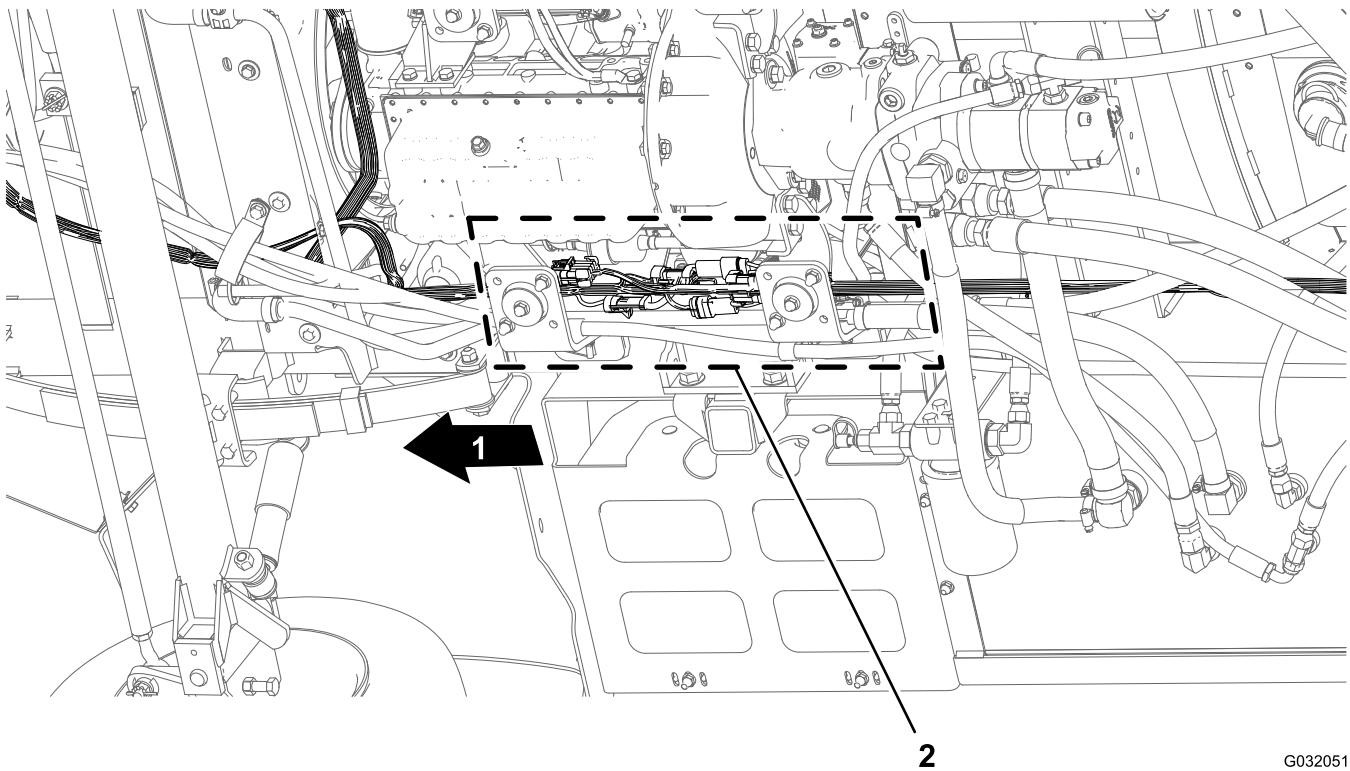

Figure 14
1. From under the machine along the right frame tube, locate the electrical connectors for the front and rear wire harnesses of the machine (Figure 14).